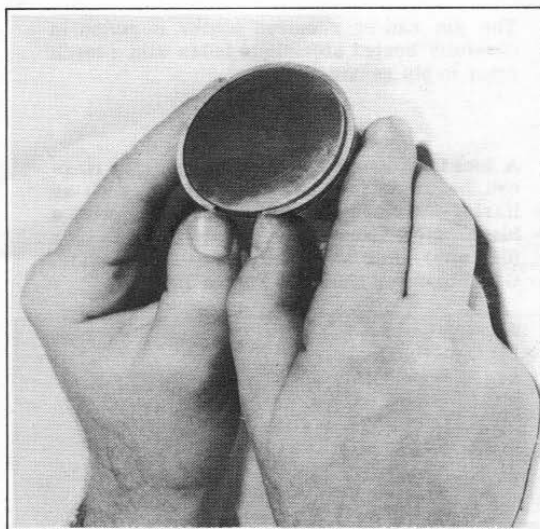

Figure 3.3. Removing Rings From Piston
At this point, piston (11) can be checked and rings (13) replaced if needed. Remove ring by first turning slightly in its seat in piston to clean groove, then spring open until it clears groove and slip off as shown in Figure 3.3.